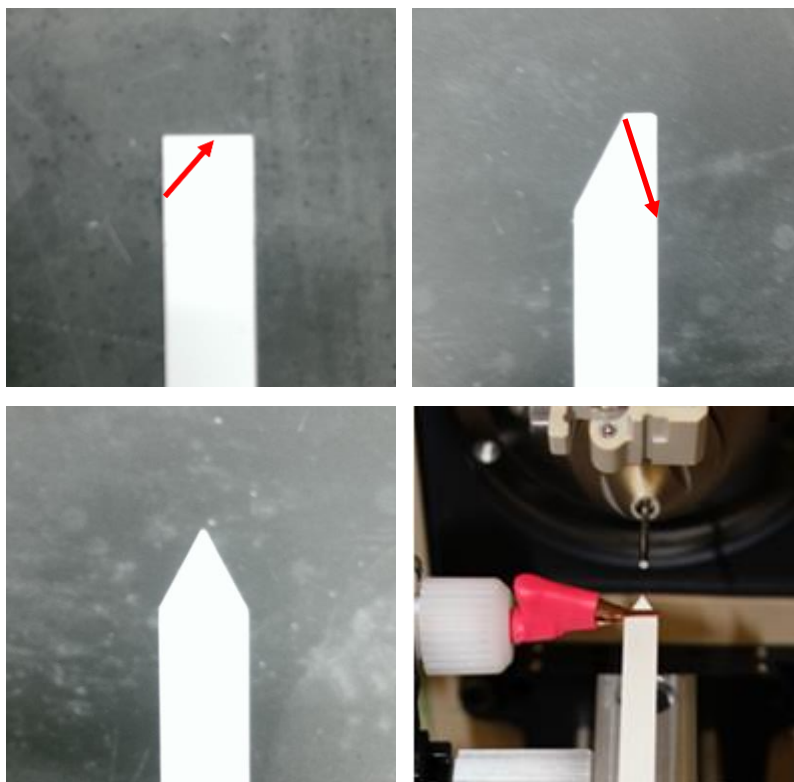
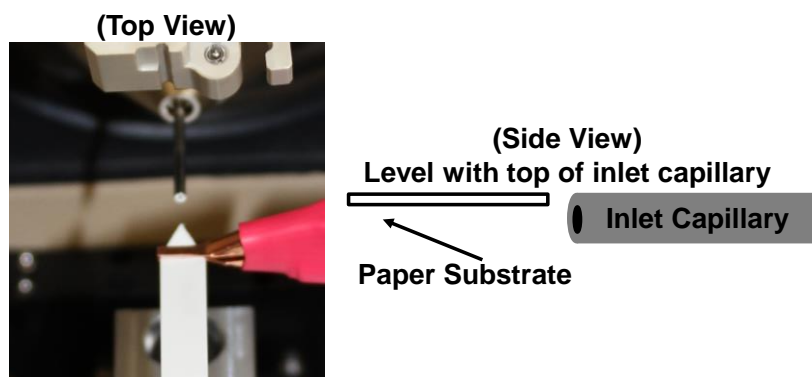
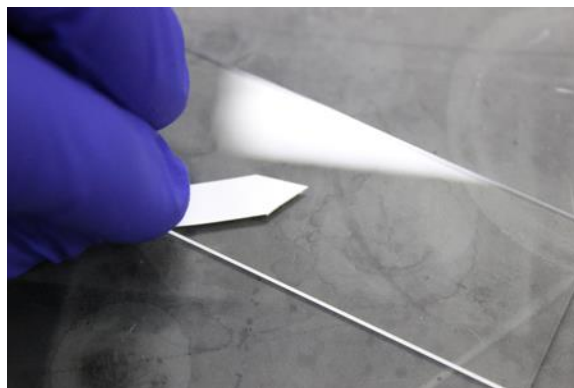

Figure 2.9 – Cutting procedure for MQuant™ Blank Strip
Figure 2.11 – Correct positioning of the paper substrate
Figure 2.12 – Swabbing of glass slide
When cutting an MQuant™ Blank Strip for PSI, make two scissor cuts as represented by the red arrows in Figure 2.9. After making the two cuts, a variable amount of exposed plastic backing should remain for stabilization of the paper, as seen in Figure 2.9 and 2.10
4. Attach the paper substrate to the high voltage clip (Figure 2.9). Confirm that the positioning of the paper in regards to the capillary is optimized (slightly above capillary and  $\sim 2$  mm away from the entrance of the capillary) (Figure 2.11).
3. Proceed to swab the surface of interest with the paper portion of the strip in a circular motion (Figure 2.12). Allow the swab to dry, and attach the swab to the voltage source (Figure 2.9).
4. Before applying spray solvent to the paper substrate, confirm that the positioning of the paper in regards to the capillary is optimized (slightly above capillary and ~2 mm away from the entrance of the capillary) (Figure 2.11)